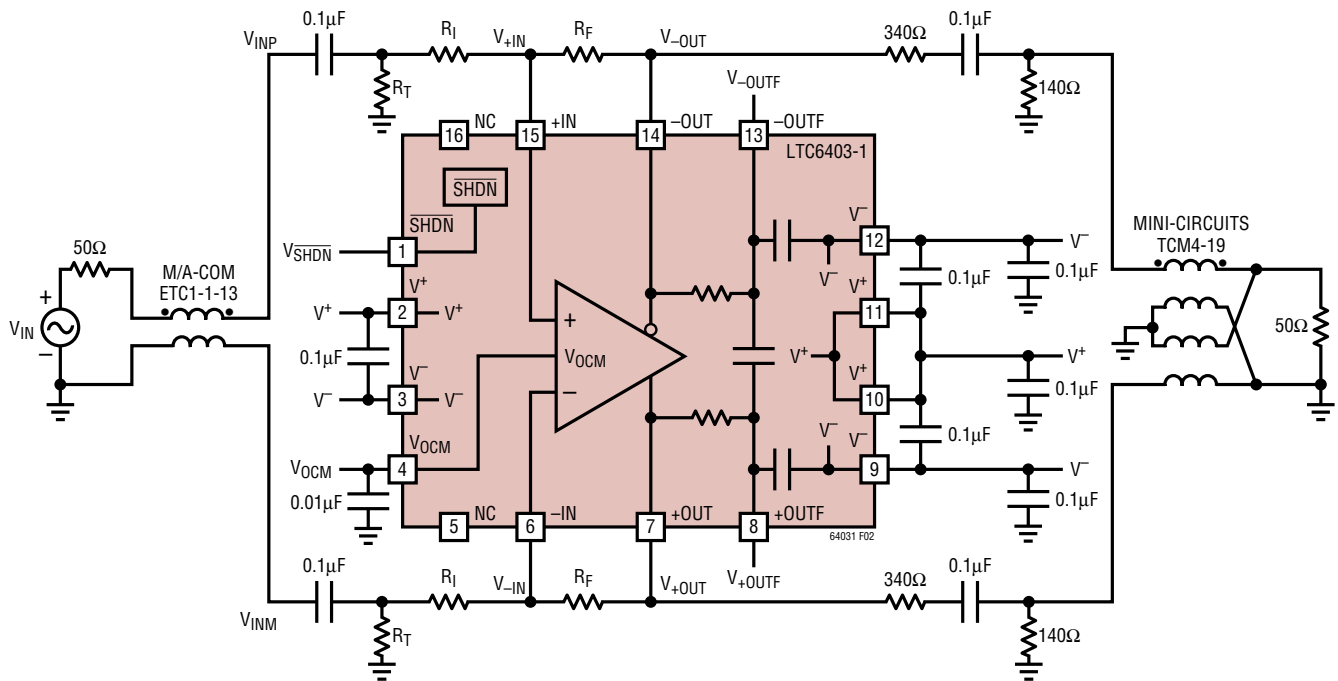

Figure 2. AC Test Circuit (-3dB BW testing)
**LTC6403-1 AC ELECTRICAL CHARACTERISTICS** The ● denotes the specifications which apply over the full operating temperature range, otherwise specifications are at  $T_A = 25^\circ\text{C}$ ,  $V^+ = 3\text{V}$ ,  $V^- = 0\text{V}$ ,  $V_{\text{CM}} = V_{\text{OCM}} = V_{\text{ICM}} = \text{Mid-Supply}$ ,  $V_{\text{SHDN}} = \text{OPEN}$ ,  $R_I = 402\Omega$ ,  $R_F = 402\Omega$ ,  $R_T = 25.5\Omega$ , unless otherwise noted (See Figure 2).  $V_S$  is defined ( $V^+ - V^-$ ).  $V_{\text{OUTCM}}$  is defined as  $(V_{\text{+OUT}} + V_{\text{-OUT}})/2$ .  $V_{\text{ICM}}$  is defined as  $(V_{\text{+IN}} + V_{\text{-IN}})/2$ .  $V_{\text{OUTDIFF}}$  is defined as  $(V_{\text{+OUT}} - V_{\text{-OUT}})$ .  $V_{\text{INDIFF}}$  is defined as  $(V_{\text{INP}} - V_{\text{INM}})$ .